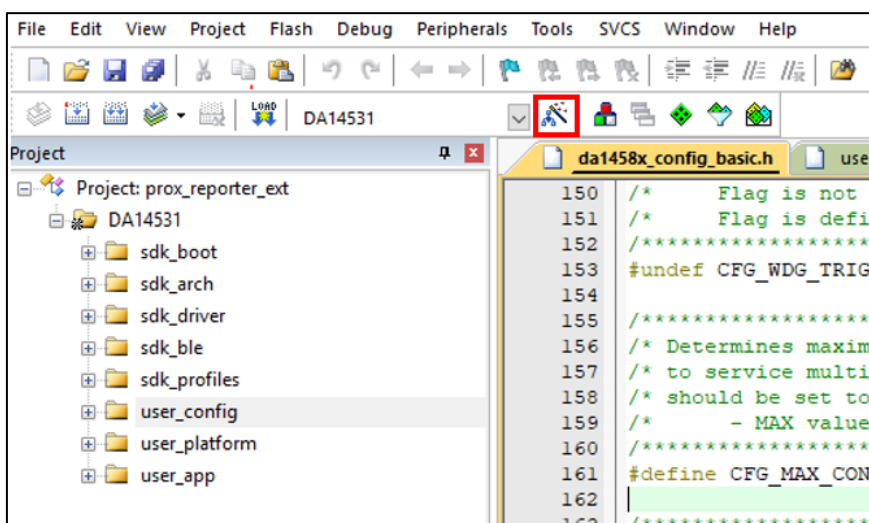

Figure 11: Keil – Option
7. Click the  icon as shown in Figure 11.